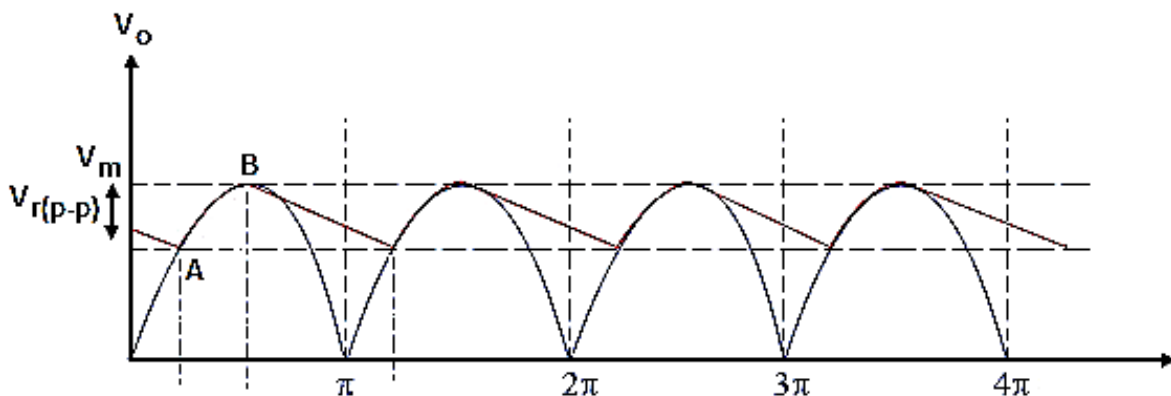

Fig.1.27: Output voltage waveform of full-wave rectifier with and without capacitor filter
- Similarly the waveform obtained from a full-wave rectifier with capacitor filter is as shown in the Fig.1.27.